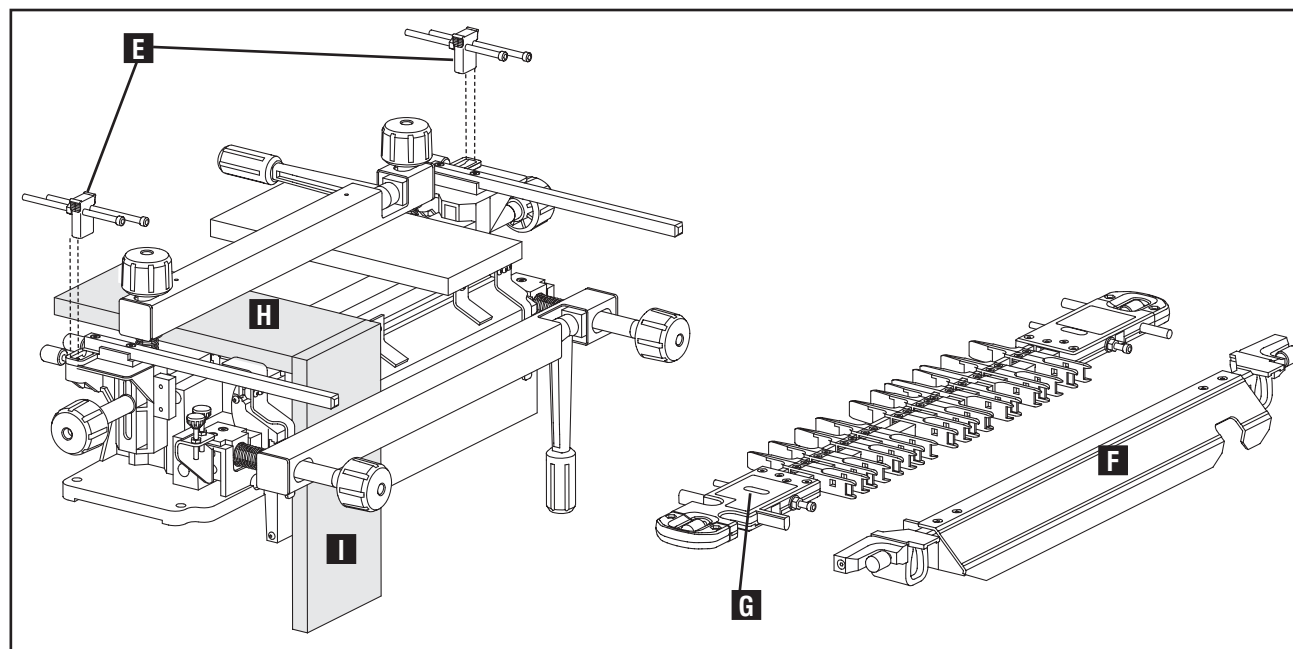

Fig. D5
1. Insert proper stops (E) Fig. D5 according to the Dovetail Setup Guide.
2. Remove stabilizer bar (F).
3. Make sure variable-spaced finger template is mounted onto the rods with the red "A Tails" label (G) facing up to the left side.
4. Mount a scrap board in the horizontal position, as shown at (H). Be sure this board is the same thickness as the pinboard.
5. Mount the tailboard in the vertical position (I) with the "outside surface" facing the jig and flush with the bottom of the template.